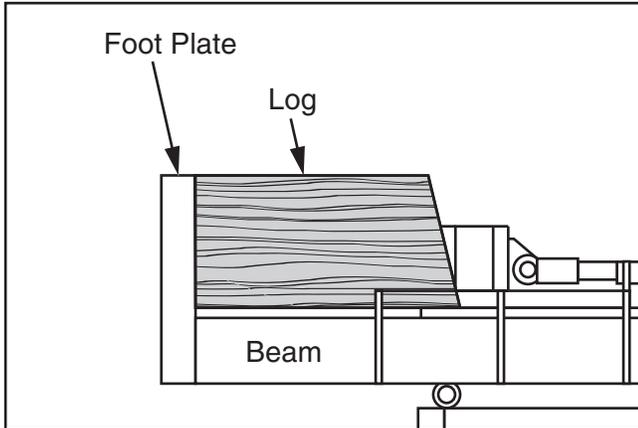

Figure 38. Best placement of log against beam and foot plate (horizontal operation shown).
7. Start engine and place log lengthwise on beam and flat against foot plate, as shown in **Figure 38**.